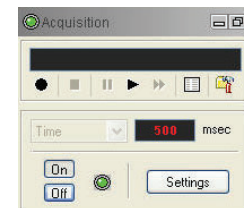

Figure 4-2 Acquisition panel □
5. □ In the **Acquisition** panel (Figure 4-2) select the sampling mode (depth or time). Click on **Settings** and specify the corresponding sampling rate. Switch on the sampling (click the **ON** button).
6. □ Press the **Record** button in the **Acquisition** panel (Figure 4-2), specify a file name and start the logging.